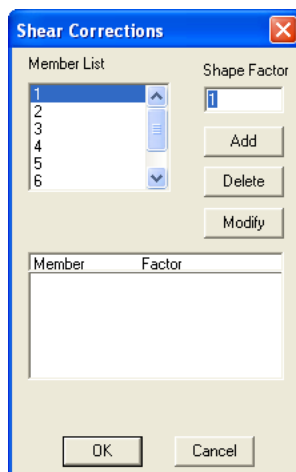

Figure 3-27 Shear Corrections dialog box
- From the **Process** menu, select **Shear Corrections**. The dialog box of Figure 3-27 appears.